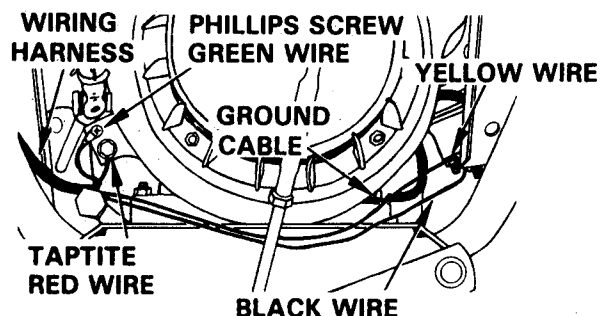

FIGURE 50
4. Attach remaining heavy cable from battery connector to engine mounting stud, for ground, tighten securely. See Figure 50.
5. Route the wiring harness around the back of the engine as shown in Figure 50. Attach the terminal of the green wire with the Phillips screws to engine as shown and tighten securely. Attach red wire to engine as shown with taptite and tighten securely.
11. Route the wiring harness around the back of the engine as shown in Figure 50. Attach the terminal of the green wire with the Phillips screw to engine as shown and tighten securely. Attach red wire to engine as shown with taptite and tighten securely.
9. Route the wiring harness around the back of the engine as shown in Figure 50. Attach the terminal of the green wire with the Phillips screw to engine as shown and tighten securely. Attach red wire to engine as shown with taptite and tighten securely.